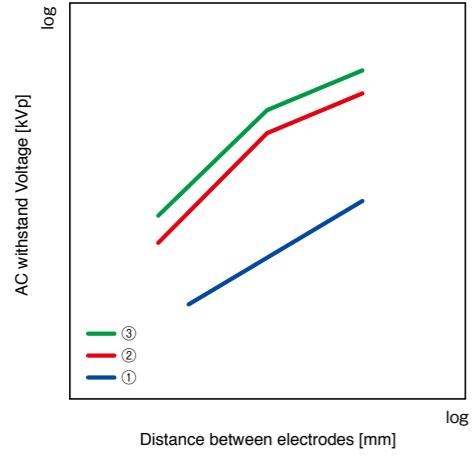

Figure 2.
Figure 2 shows "distance between electrodes-withstand voltage" characteristics. It is not possible to obtain high withstand voltage like behavior. ① (before conditioning) by simply placing electrodes in vacuum. High withstand voltage requires conditioning, which is to apply high working voltage and repeat low current flashover multiple times performed in our HASS testing. ② Exhibited withstand voltage characteristics after conditioning during production HASS/ conditioning. ③ display post conditioning withstand voltage. Please note that instant discharge may occur after reaching ② and ③ by conditioning.